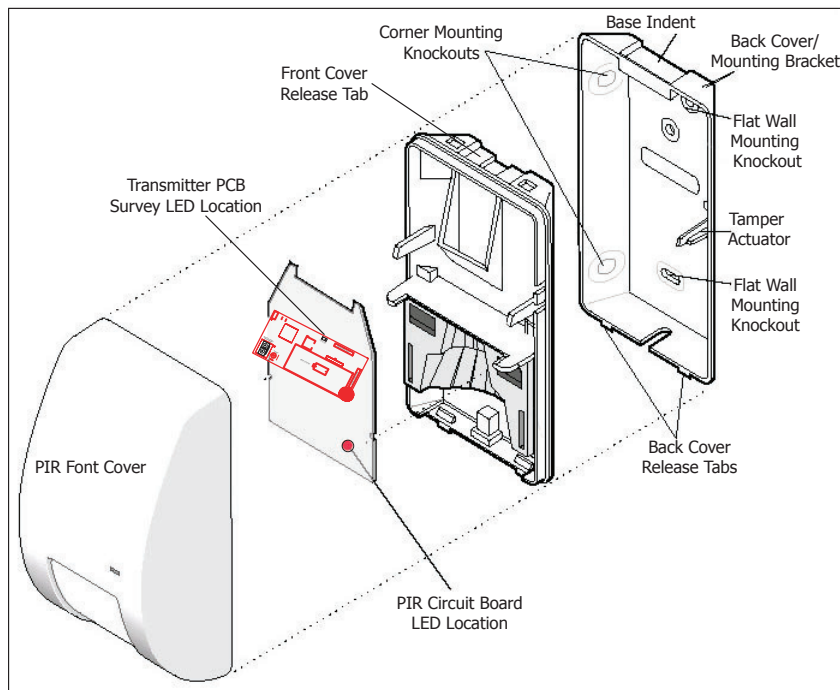

Figure 1: 1125 PIR Exploded View
The PIR transmitter provides a survey capability to allow one person to confirm transmitter communication with the receiver while the cover is removed. Refer to Figure 1 and the PIR Walk Test steps to remove the PIR front cover. The PIR transmitter PCB Red Survey LED turns on whenever data is sent to the receiver then immediately turns off when the receiver acknowledgement is received. Waving your hand in front of the PIR is a convenient way to send data to the receiver to confirm operation. The PIR circuit board LED lights to indicate motion and the Survey LED briefly lights to confirm operation. See Figure 1 for LED locations.
1. Separate the PIR unit from the mounting bracket. Refer to Figure 1 for details.